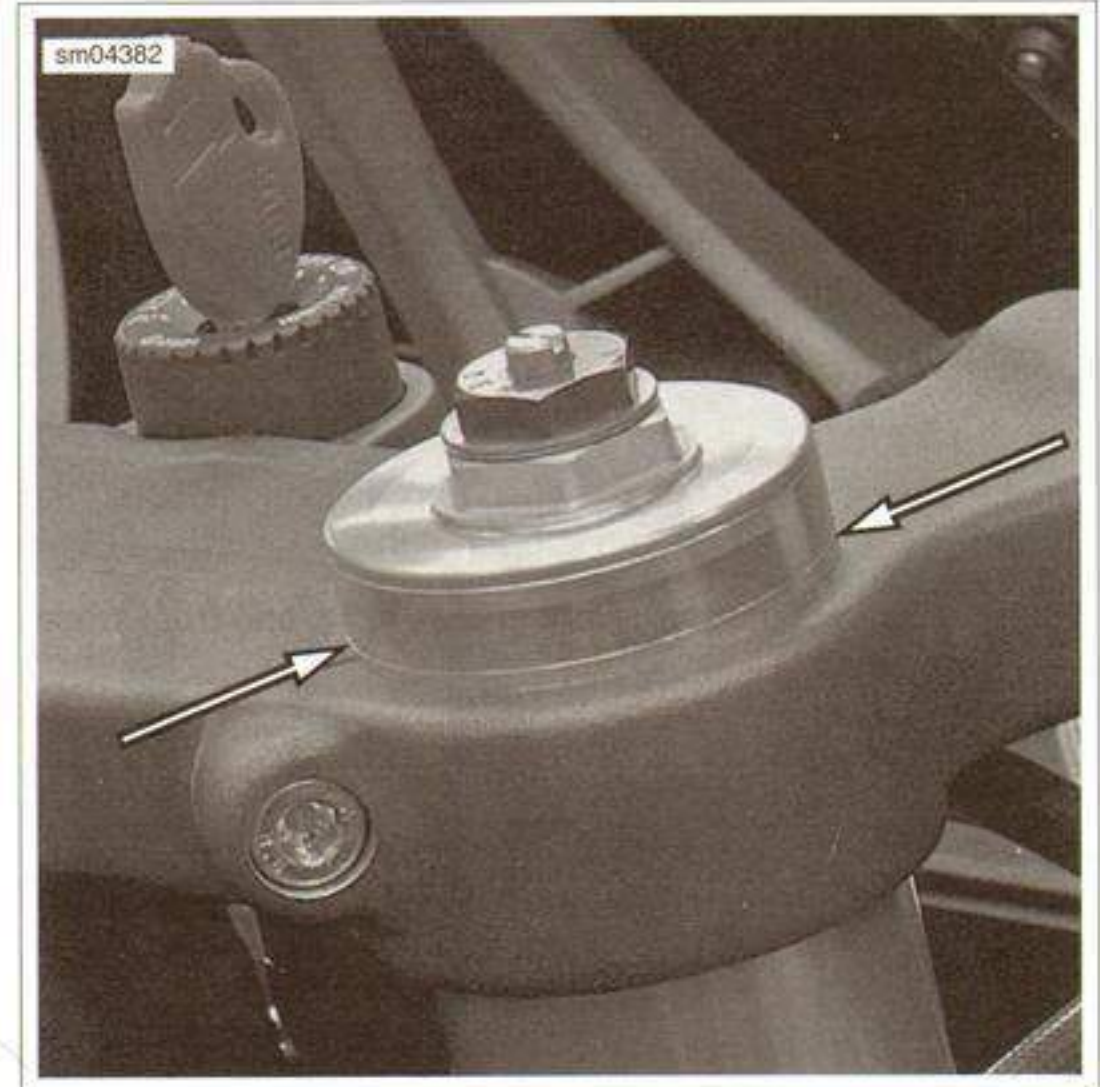

Figure 2-98. Alignment Line
6. See Figure 2-98. Position both forks with same number alignment lines visible and reflectors facing to the sides. Do not tighten.